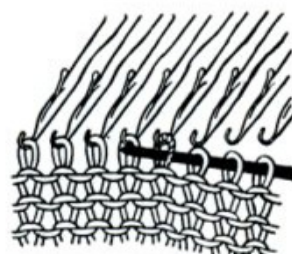

Fig. 55
- d. Transfer the stitches from the hand knitting needle onto the open hooks of the machine needles. (Fig.55)
- a. Simply push into action one needle from the resting position (A) on the side nearest the carriage.